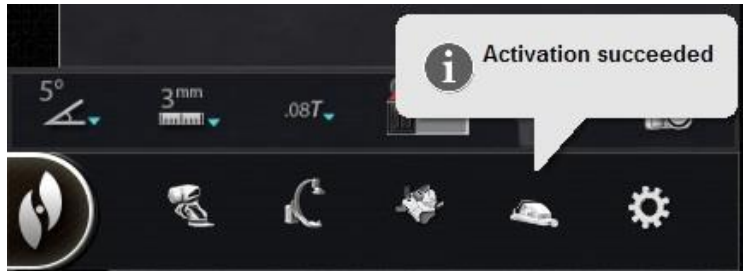

Figure 42. Activation succeeded
- The status message of a successful activation code scan is shown in **Figure 42**.